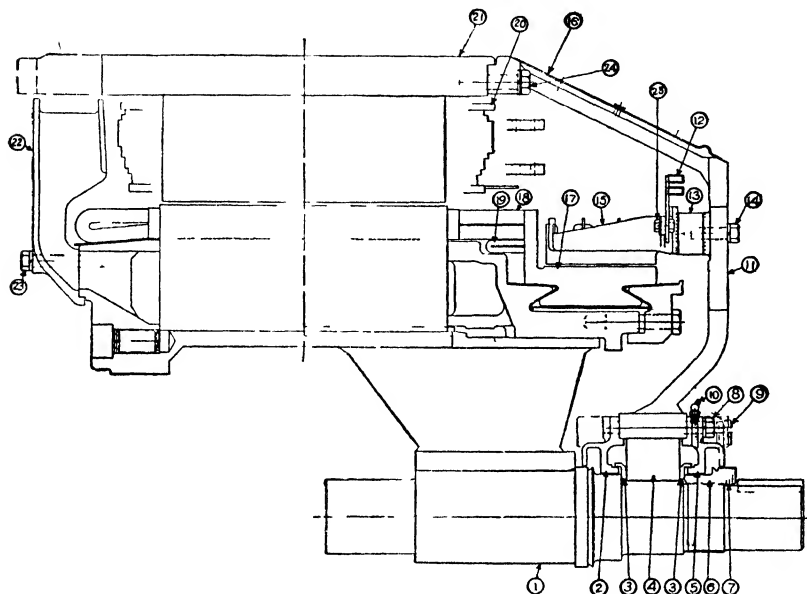

Fig. 2. Longitudinal Section. Traction Generator, Types GT-552 and GT-553
**Disassembling Parts for Repair.** Refer to Longitudinal Section Fig. 2. The special main generator bearing puller is furnished with the generator to facilitate disassembling of parts.